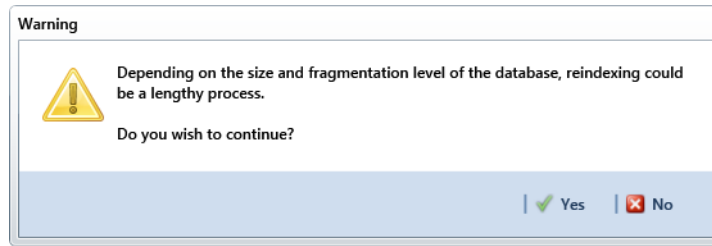

Figure 18-4. Warning Message
- 3 When a warning message opens, click  **Yes** to continue the reindexing process (Figure 18-4).